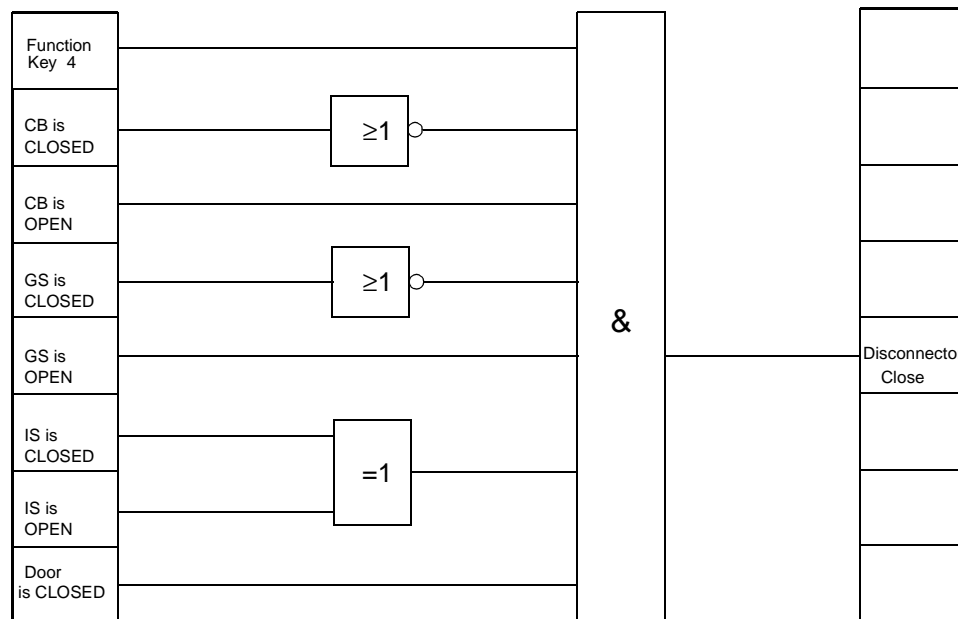

Figure 5-43 Interlocking an disconnect switch as an example of a user defined interlock protective function
Interlocking logic (see Figure 5-43) is to be implemented for the operation of an isolating switch using function key 4. The user must take the switch position indications of the corresponding isolation switch and the grounding switch into account. The CLOSE and TRIP indications from the auxiliary contacts of each switch are used.
- The CLOSE indications from the circuit breaker (CB) and from the grounding switch (GS) are supplied to the inputs of the NOR functions.
- The OPEN indications from the circuit breaker (CB) and from the grounding switch (GS) are supplied to the inputs of the AND function.
- The switch position indications from the disconnect switch (IS) are linked to the inputs of the XOR function.
- Function key 4 is linked with an input of the AND function.